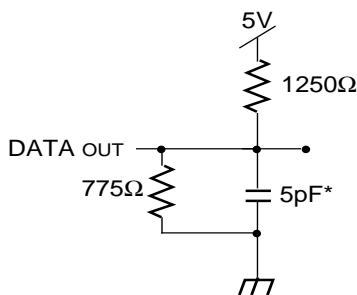

Figure 2. Output Test Load (for tHZ, tLZ, twz, and tow)
1. Transition is measured ±500mV from Low or High-impedance voltage Output Test Load (Figure 2).
1. Transition is measured  $\pm 500\text{mV}$  from Low or High-impedance voltage with Output Test Load (Figure 2). This parameter is guaranteed by device characterization but is not production tested.
7. This parameter is determined by device characterization, but is not production tested. Transition is measured +/- 500mV from steady state with the Output Test Load (Figure 2).